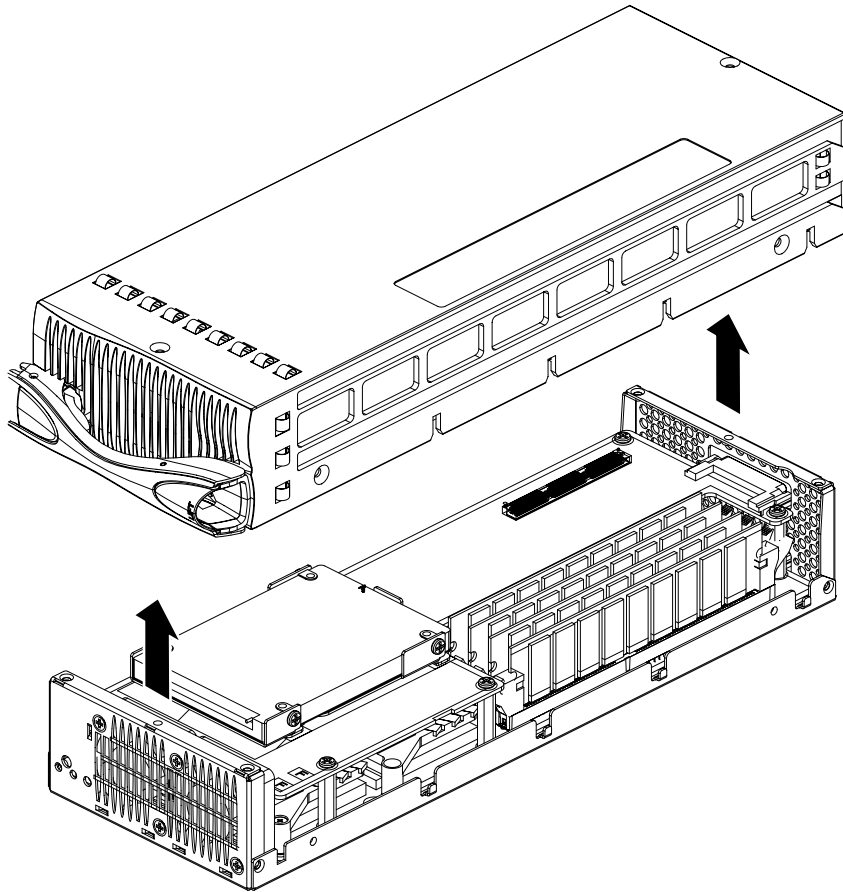

FIGURE 2 Lifting the Blade Cover Away From the Blade
2. Lift the blade cover away from the blade (FIGURE 2).